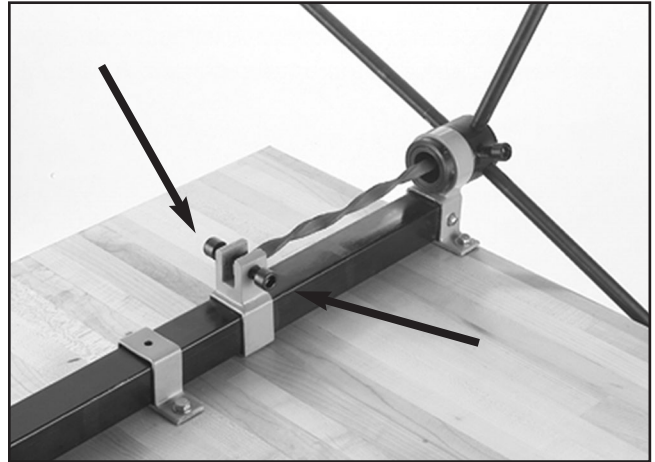

Figure 12. Securing the workpiece.
3. With the cap screws located in the clamp bracket, lock the workpiece down tightly to ensure the cap screws will hold the workpiece while twisting (Figure 12).